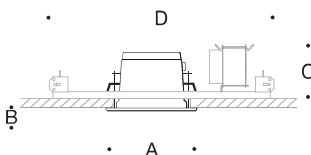

Figure 1:
2. Attach bar hanger brackets to ceiling pan by aligning vertically and tightening (1) flat head bar hanger screw. See Figure 1.